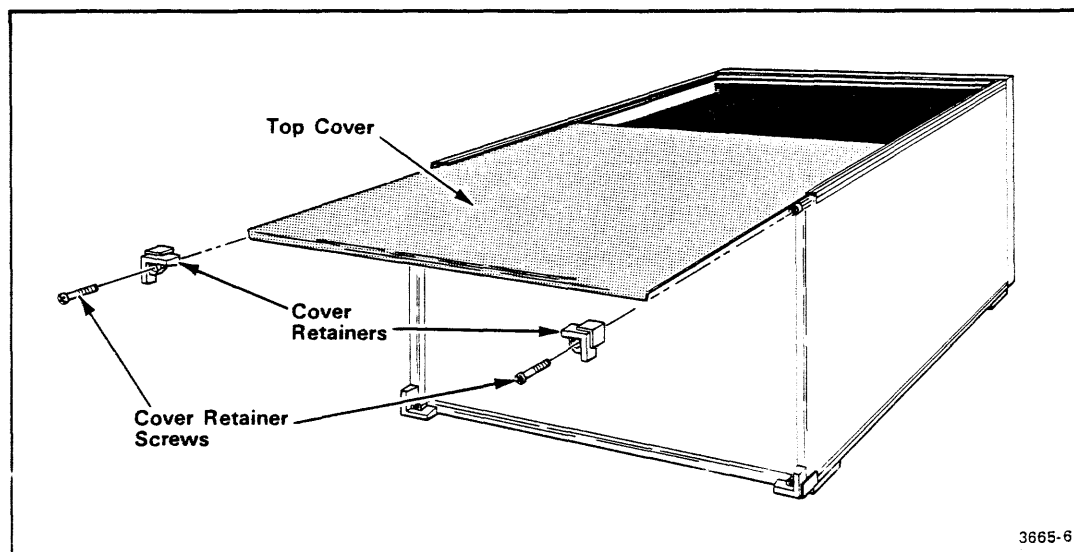

Fig. 3-1. Removal/Installation of top cover.
2. Remove the cover retainers at the upper corners on the rear of the mainframe - see Fig. 3-1.
8. Install the cover retainers (removed in step 2) at the upper corners on the rear of the mainframe (Fig. 3-1). Tighten the cover retainer screws securely.